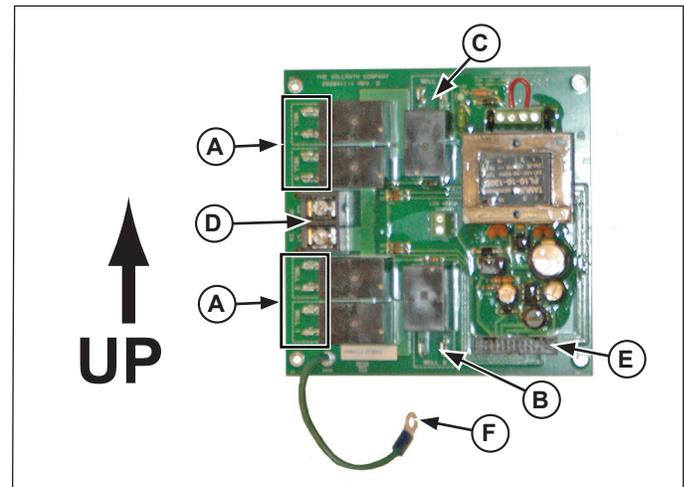
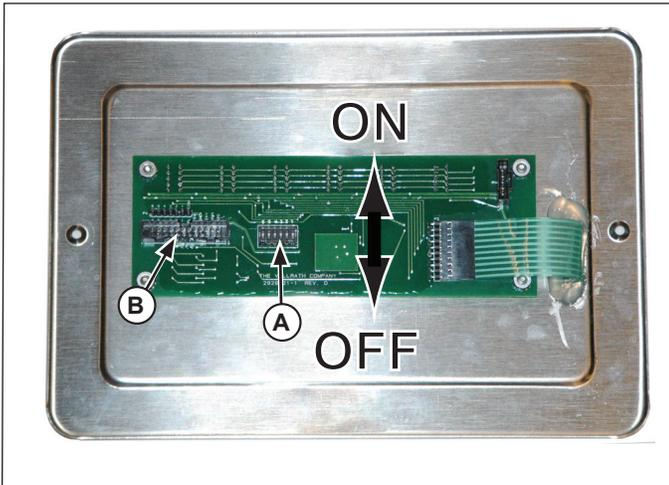

Figure 2. New Relay Board
Figure 3. Logic Board
1. Install new Relay Board on (4) remaining standoffs. Orient the board as shown in Figure 2. It will snap onto each standoff. Replacement standoffs are supplied in case any standoffs were broken or damaged.
2. Install well wires per Figure 2. Terminals for Wells # 1-4 (A) are on the left edge of the board, Well # 5 (B) at the bottom of the board, and Well #6 (C) at the top of the board.
3. Install power wires into the terminal block (D) located at the center of the left edge of the board. Each stripped wire end must go under a pressure plate on the terminal block. Tighten screws securely.
4. Plug the Ribbon Cable into Relay Board port (E). Either end of the cable may be used, but the connector is keyed, and will only fit into the socket in one direction.
5. Connect the Ground Cable (F) in the location where the previous Ground Cable was attached.
6. Locate the slide switches (A) at the center of the Logic Board, located on back side of Control Panel. Using a ball point pen, slide the switch for each well in the Serving Station to the ON (up) position. Slide all unused switches to the OFF (down) position. See Figure 3.
7. Plug the other end of Ribbon Cable into socket on Logic Board port (B). The connector is keyed and will only fit into the socket in one direction.
8. Check all connections to make sure they match Figure 2 and Figure 3.
9. Install Control Panel using (2) screws removed earlier.